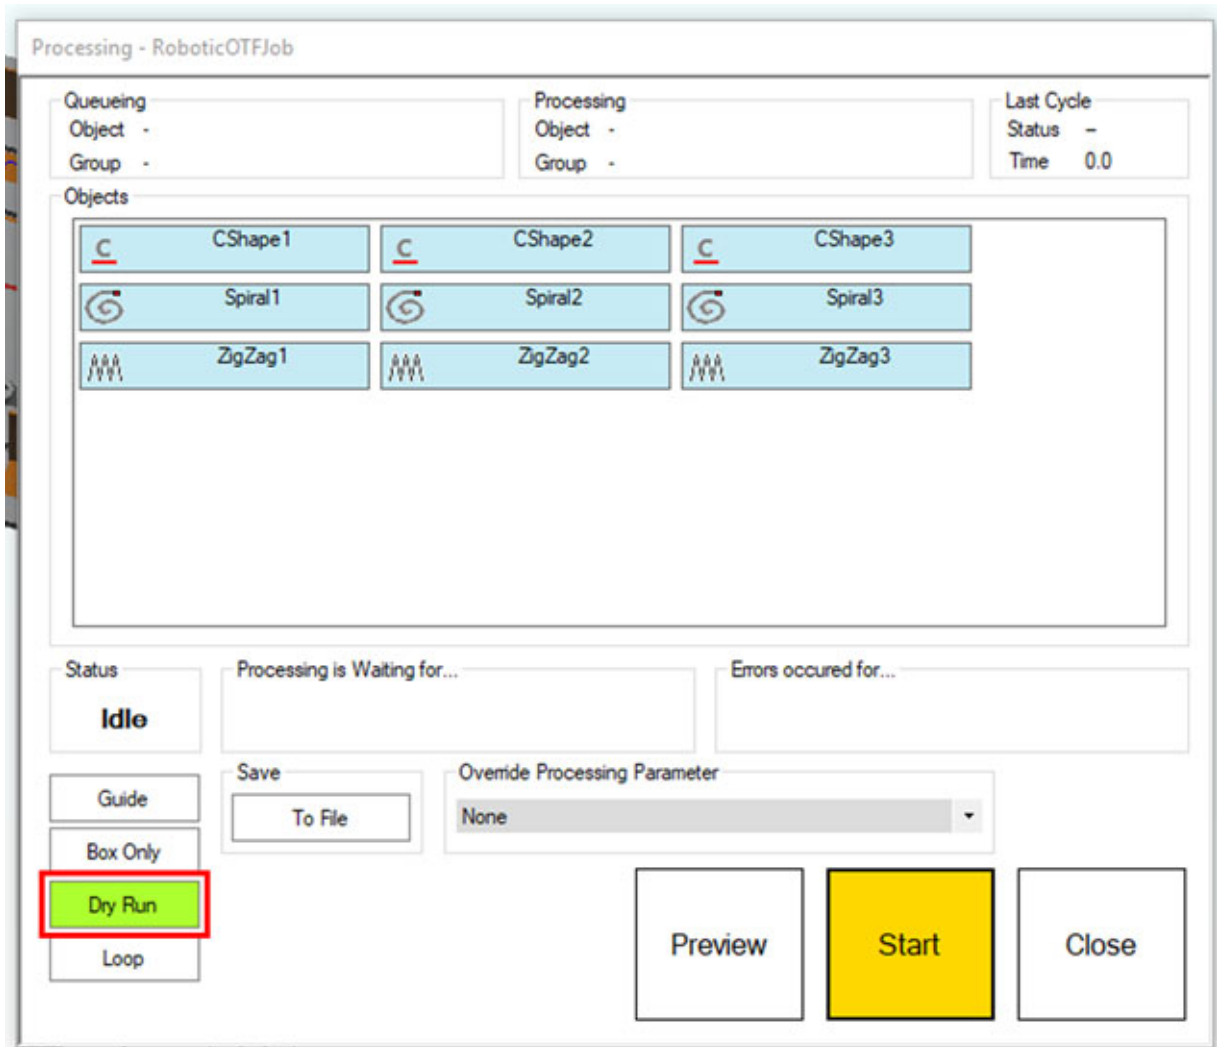

Figure 255: Enabling Dryrun
3. Select the "Dryrun" button. See Figure 255 (below).